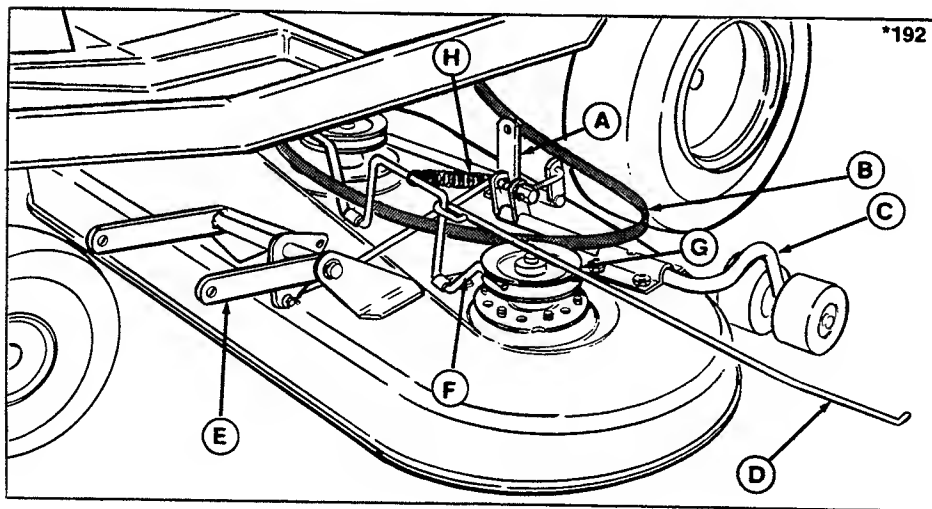
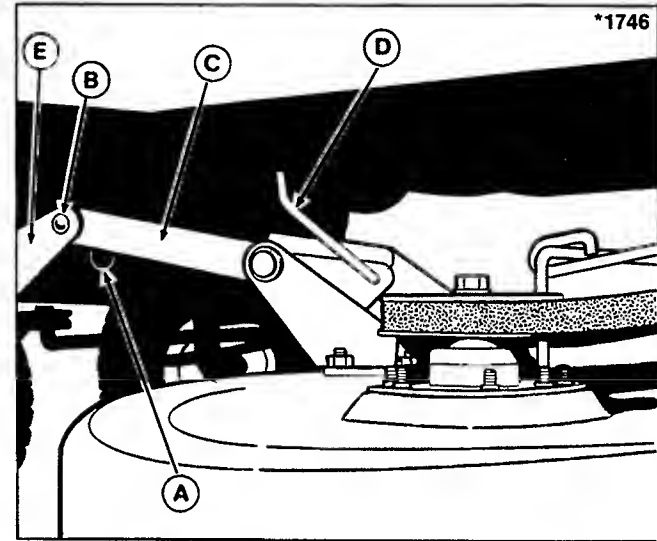
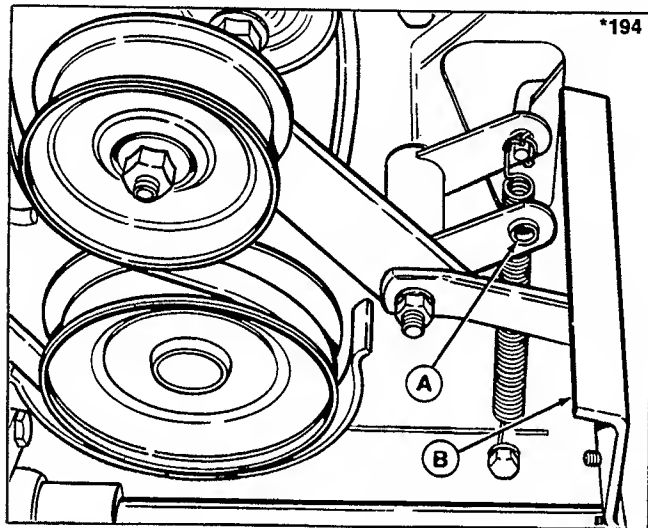
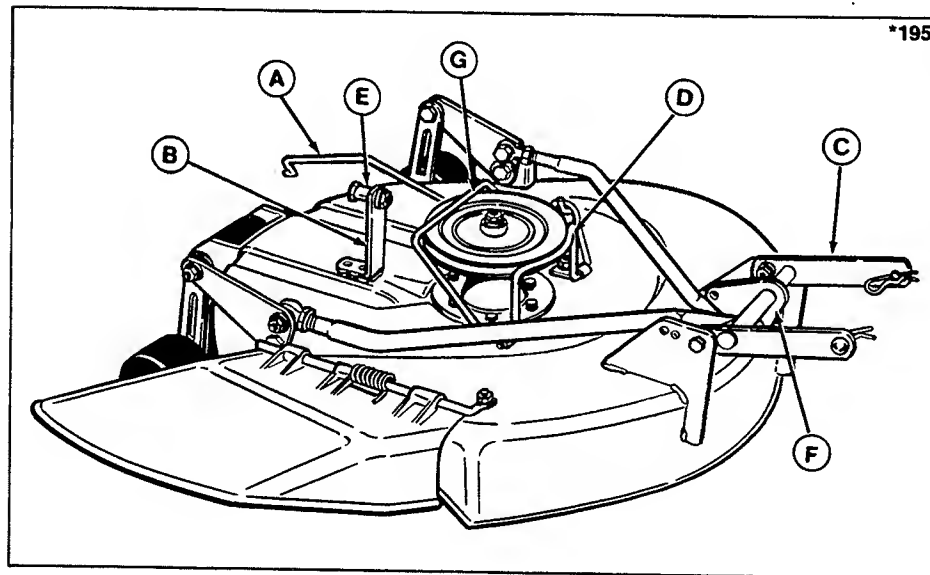

Figure 21. Installing 36" Mower
Figure 23. Mower Hitch
Figure 24. PTO Linkage
Figure 25. 26 " & 30" Mower
1. Place mower on left side of rider with mower brake rod (D, figure 21) pointing left. Slide mower partially under and place belt over mower bracket (A).
4. Before installing mower, remove one end of brake spring (H, figure 21) and route loose belt under spring and brake rod (D). Reinstall spring.
5. To align the mower hitch in rider hitch ears, push the hitch arms up and insert between ears (figure 23). (Pulling up on roller arm will help raise hitch.) Secure the mower hitch with pins and spring clips. Install pins from the outside. Be sure to install clip fully onto large ring.
7. Install the belt on the pulleys. Push the mower brake (F, figure 21) away from the pulleys to install belt. Loosen left arbor pulley belt stop if necessary. Make sure "V" side of belt rides in pulleys and there are no twists in belt.
8. Push the brake (F, figure 21) away from the pulleys so the brake rod (D) will clear the tire and left side plate. Insert the brake rod just inside the left side plate and insert the end of rod into PTO linkage shown in figure 24. (Engage the PTO lever to change position of the linkage.) Secure the brake rod with a spring clip (insert spring clip from rear).
9. Put height control lever in lowest position. To slip the lift rod (D, figure 23) into the hitch flange, the front of the mower must be raised a little. One method is to insert a wooden handle under the front of the mower deck and lift slightly (in a lever action). Insert end of lift rod into the hitch flange. Secure the rod with a washer and cotter pin.
1. Remove the spring clip from the brake rod and remove end of rod from the PTO linkage (figure 24). Push brake rod forward to clear left side plate and tire and swing rod out toward left side.
Loosen the hardware which secures the pulley belt guard (G, figure 25). The guard must be loose to install the belt.
5. Go around to the right side of the rider. Push the mower forward so rear roller will clear the tire then push mower under rider. Slip the belt over the mower bracket (B, figure 23).
6. Position the mower under the rider so that the mower bracket (B) is behind the rider upstop bracket.
7. Push the brake (D, figure 25) away from the pulley and slip the belt into the pulley. Be sure there are no twists in the belt. Tighten the belt guard (G, figure 25) hardware securely.
8. Lift up the front of the mower to align the hitch arms between the rider hitch ears (figure 23). Insert the two pins while holding mower up. Install the two spring clips in the pins.
9. Lift up the front of the mower and insert the lift rod (D, figure 23) into the hitch flange. One method to lift mower is to insert a wooden handle under the front edge of the mower deck and lift slightly (in a lever action). Place washer on lift rod then install spring clip.
10. Apply a little grease to the inside of the spacer (E, figure 25) and place the spacer on the bolt. Install the bolt thru the upstop bracket and mower bracket from the front. Be sure spacer is inside the upstop bracket. Install the locknut on the bolt. Tighten securely.
11. Push the brake (D, figure 25) away from the pulley to insert the brake rod (A) just inside the left side plate. Insert the rod into the PTO linkage shown in figure 24. Insert the spring clip into the rod from the rear.
5. Loosen the hardware that secures the mower pulley belt guide (G, figure 25). Push the brake (D) away from the pulley and slip the belt out. Push the mower to one side and slip belt between mower bracket (B) and upstop bracket.
6. Remove the spring clip from the rear of the brake rod (A) and pull rod out of the linkage.
7. Remove the spring clip from the lift rod (D, figure 23). Remove the washer.
8. The mower must be lifted slightly to remove the lift rod from the mower flange (F, figure 25). One way is to insert a wood handle under edge of mower and lift up in a lever action. Pull lift rod out of the hole.
4. Loosen the idler pulley (K) mounting hardware. If pulley is removed, remember the position of the washers and belt stop (M).
5. On the 36 inch mower, loosen the left arbor pulley belt stop. On 26 inch or 30 inch mower, loosen the belt guide (G, figure 25).